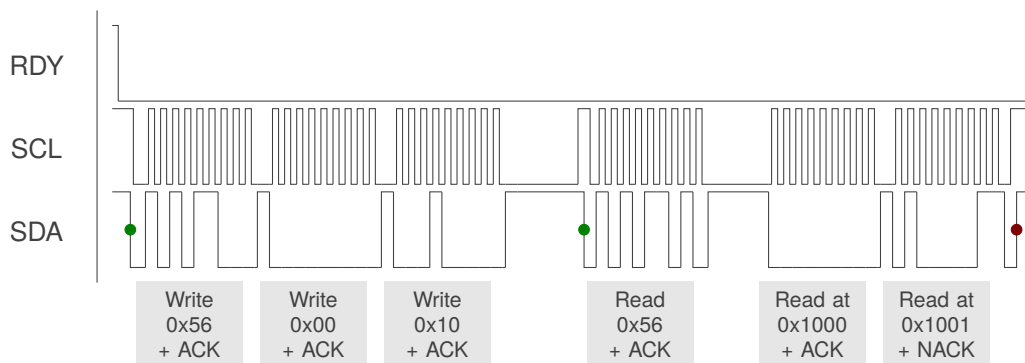

Figure 11.1: I²C Read Example — Read System Control Registers 0x1000 and 0x1001
A typical read operation is displayed in Figure 11.1. The master device waits for the RDY line of the IQS396 to go low, indicating the availability of new data and an available communication window. Once the RDY interrupt is triggered, the master initiates communication by sending a start condition followed by the device address and a write command. The IQS396 responds with an acknowledgement, after which the master device will transmit two bytes defining the register address. The master then sends a repeated start condition, followed by the device address with a read command. The IQS396 transmits data from the requested address and will continue to do so while the master acknowledges each byte. The read operation is ended when the master does not acknowledge the last byte received and produces a stop condition.
- > Read the *System Control* Registers (0x1000 and 0x1001) as illustrated in Figure 11.1.
With the *Terminate Comms Window* setting enabled in the *Power Settings* register, a standard I²C STOP ends the current communication window. If multiple I²C transactions need to be done, then they should be strung together using repeated-start conditions instead of giving a STOP. Allowing an I²C STOP to terminate the communication window is the recommended method, as illustrated in Figures 11.1 and 11.2.